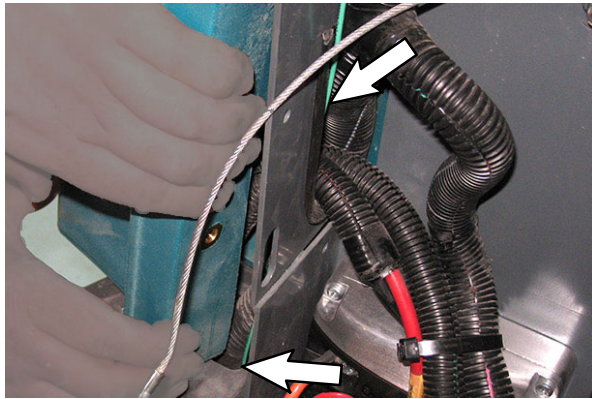
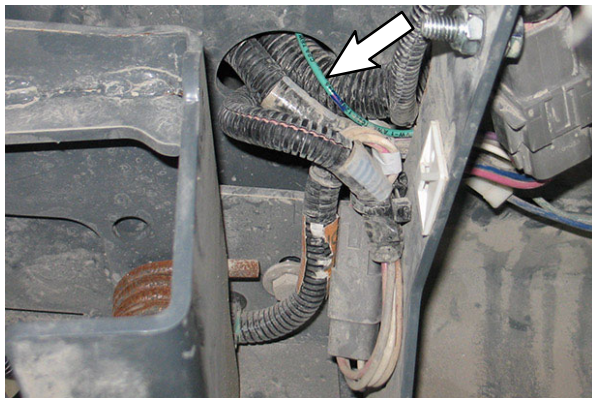

FIG. 8
FIG. 9
7. Pull the front shroud out away from the steering channel and route the green wire (1) along the main wire harness and down through the holes in the lower operator station and frame of the machine to the underside of the machine. (Fig. 8/ Fig. 9)
9. Pull the remainder of the green wire (1) through the holes in the lower operator station and frame of the machine. (Fig. 8/ Fig. 9)